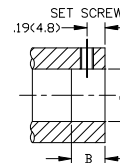

Fig 2 Mounting Dimensions
2. The connector can be held or mounted by the body or plastic bushing, but was not designed to carry mechanical loads. One end should be allowed to float attached only by the connecting wires. In horizontal applications mount the connector with the body rotating to reduce mechanical loads on the bearing. **Never rigid mount both ends of the connector. This will cause connector failure.** Limit mounting eccentricity to .005" (.13mm). <Fig 2>